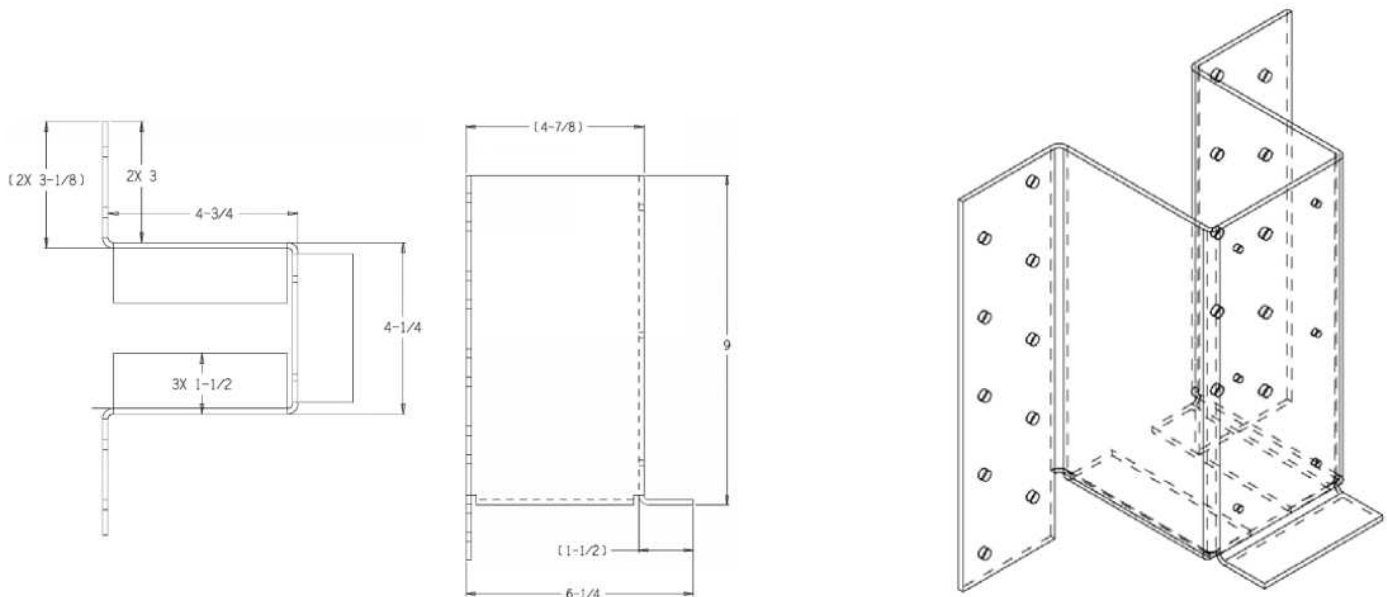

FIGURE 1 – MTWDeck Bracket
3.1 The MTWDeck Bracket is cold-formed from 10 gage (0.013") steel with a protective coating conforming to Specification ASTM A653-G90 and is prefabricated with twenty 1/4" dia. holes for fastening through and into the rim joist, and six 5/32" dia. holes for receiving self-drilling screws where the deck ledger is fastened to the bracket. See Figure 1 for overall dimensions.